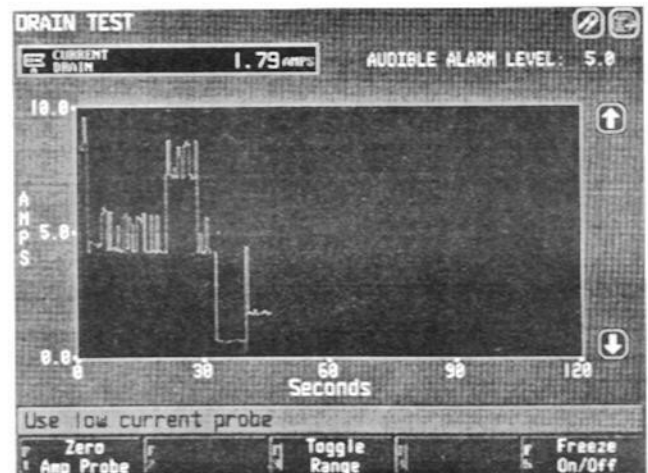

Figure 3-9
1. Select the test from the menu. The *Drain Test* screen appears (see Figure 3-9).